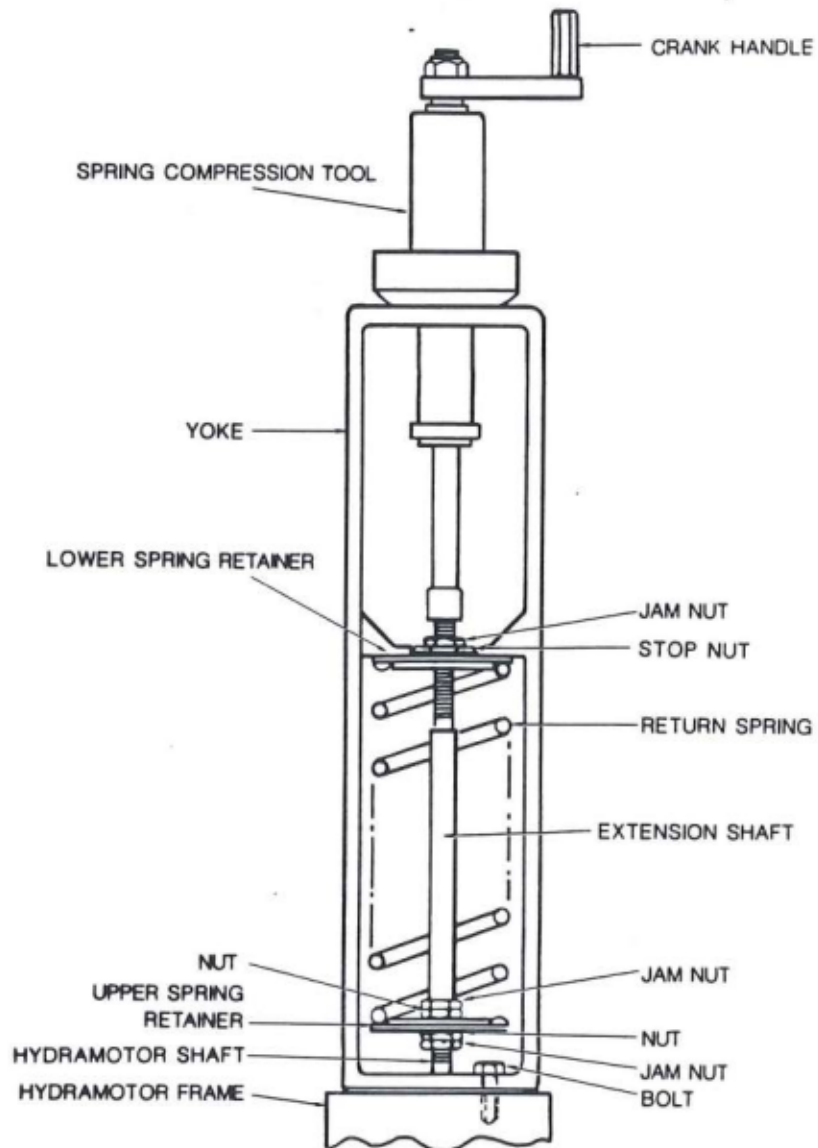

Figure 6-15. Using the Spring Compression Tool, Push Type
- 1). Compress the spring by pulling the shaft with the Spring Compression Tool (P/N S108512A) (refer to Figure 6-15). The four 3/4" hex bolts (715) that secure the yoke to the power module will be exposed. Remove these bolts with their lock washers (714).
- 4). Insert the Spring Compression Tool (P/N S108512A) through the bonnet mount hole at the base of the yoke. Screw the end of the tool onto the shaft (refer to Figure 6-15).